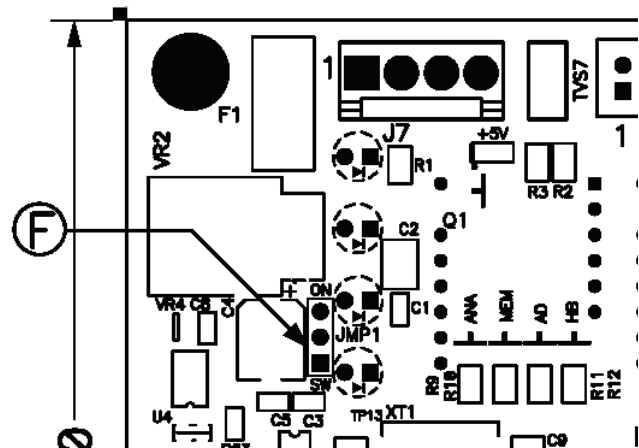
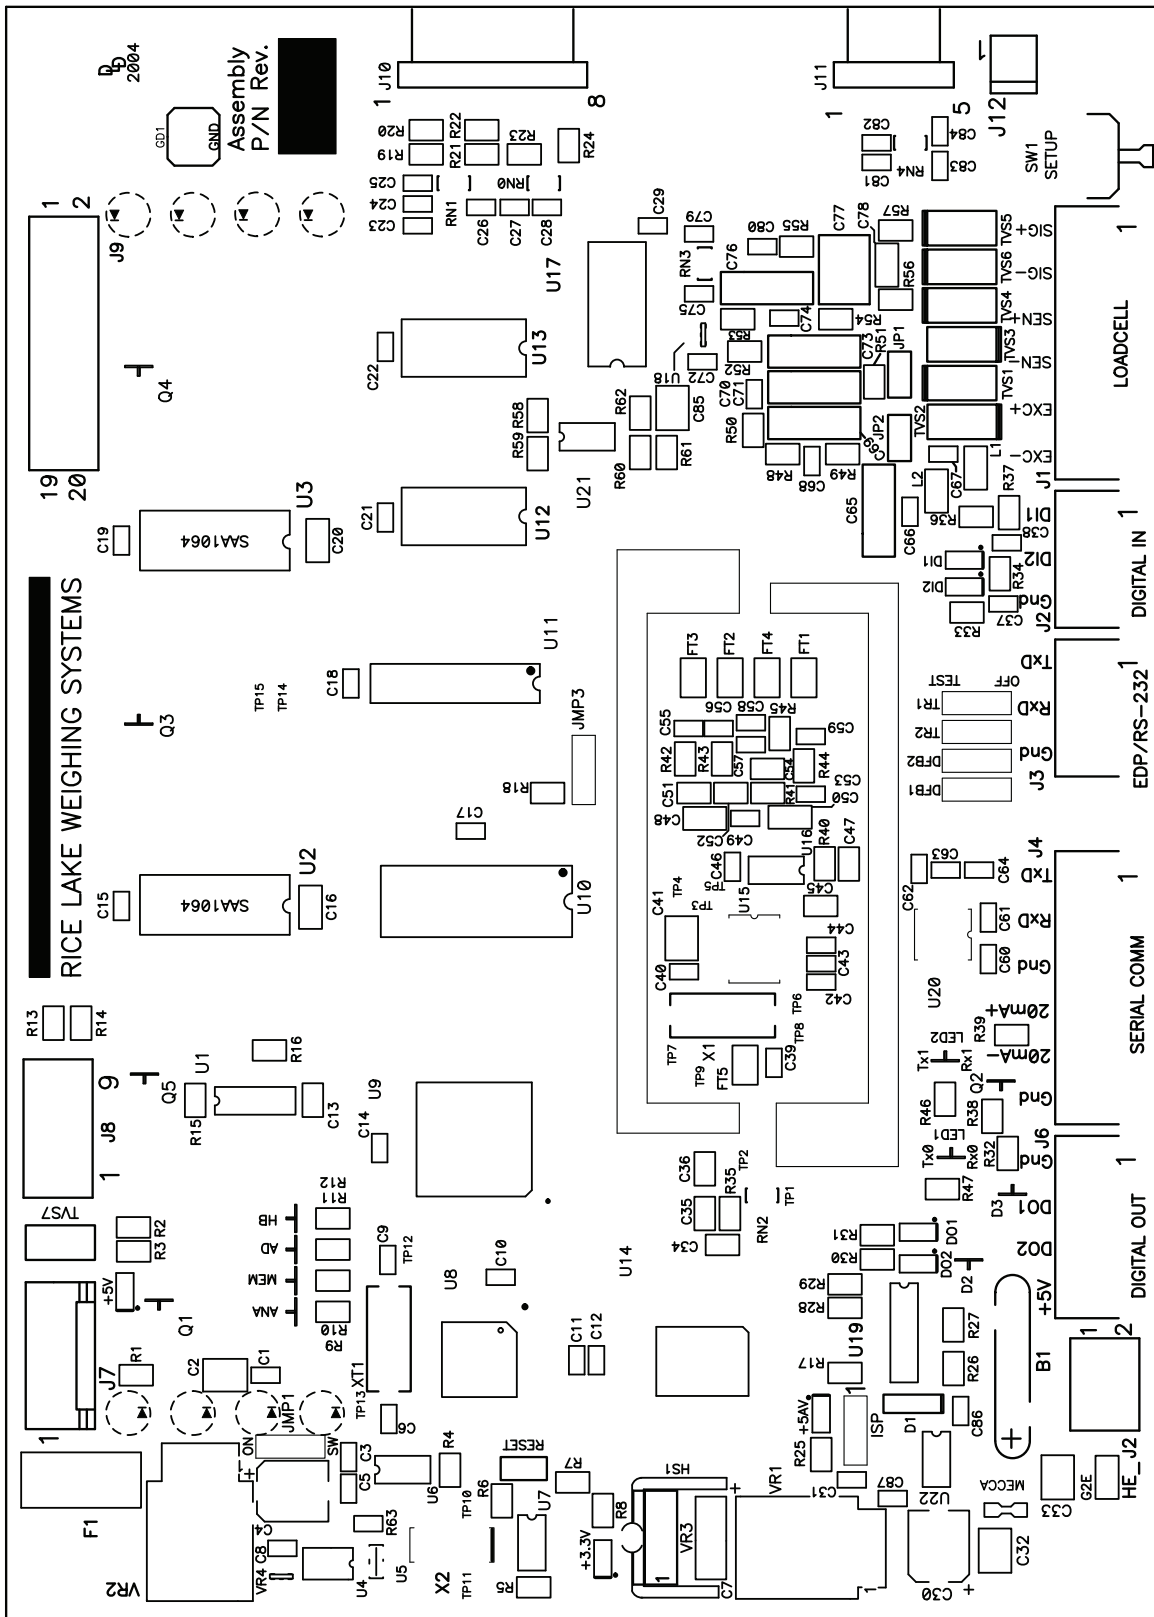

Figure 2-3. 420 Plus CPU and Power Supply Board JMP1 Shunt Location
Figure 2-4. 420 Plus CPU and Power Supply Board
- Two, six-position screw terminals (PN 70599) for connectors J4 & J1, two, three-position screw terminals (PN 71125) for connectors J2 and J3, and one, four-position screw terminal (PN 71126) for connector J6 (see figure 2-4).
If jumper JMP1 is set for SW position, the power switch on the front panel of the indicator will turn the unit ON or OFF. If it is not in the SW position, the indicator will power up as soon as the AC is applied. This allows the front panel overlay power control switch to be bypassed. Label “F” in Figure 2-3 shows the location of JMP1. Figure 2-4 on page 8 shows entire board.
To attach cable from a load cell or junction box, remove connector J1 from the board. The connector plugs into a header on the board as shown in Figure 2-4 8.
Using one of the 6-position connectors, provided in the parts kit, wire the load cell cable from the load cell or junction box to connector J1 on the CPU board (See Figure 2-4 8). If using six-wire load cell cable (with sense wires), remove jumpers JP1 and JP2 before reinstalling connector J1 (see Figure 2-4). For four-wire installation, leave jumpers JP1 and JP2 on. When connections are complete, reinstall connector J1 onto the header so that it snaps securely into place. Use two cable ties to secure the load cell cable to the inside of the enclosure.
Once cables are attached, reconnect J3 and J4 to the headers on the board (see Figure 2-4). Use cable ties to secure serial cables to the inside of the enclosure.
Mount the analog output module on its standoffs in the location shown in Figure 2-4 8 and plug the module input into connector J9 on the *420 Plus* board. Connect output cable to the analog output module as shown in Table 2-5, then reassemble the enclosure (Section 2.5).
3. Unplug connectors J1 (load cell cable), J2 (digital inputs), J3 (EDP/RS-232), J4 (serial communications), J6 (digital outputs), and J10 & J11 (keypad ribbon cables). If an analog output board is installed, disconnect the analog output cable. See Figure 2-4 8 for connector locations.